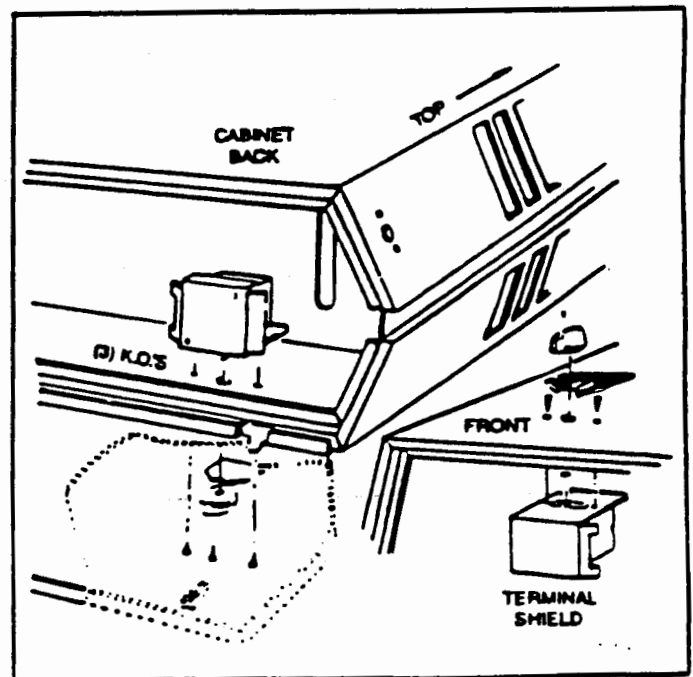

FIGURE 2 - Switch Location on 25-50 KW Unit
- b. 25-50 KW Units — 13/32" diameter knockout is located on left hand side of heater front with the small knockout on either side. See Figure 2.